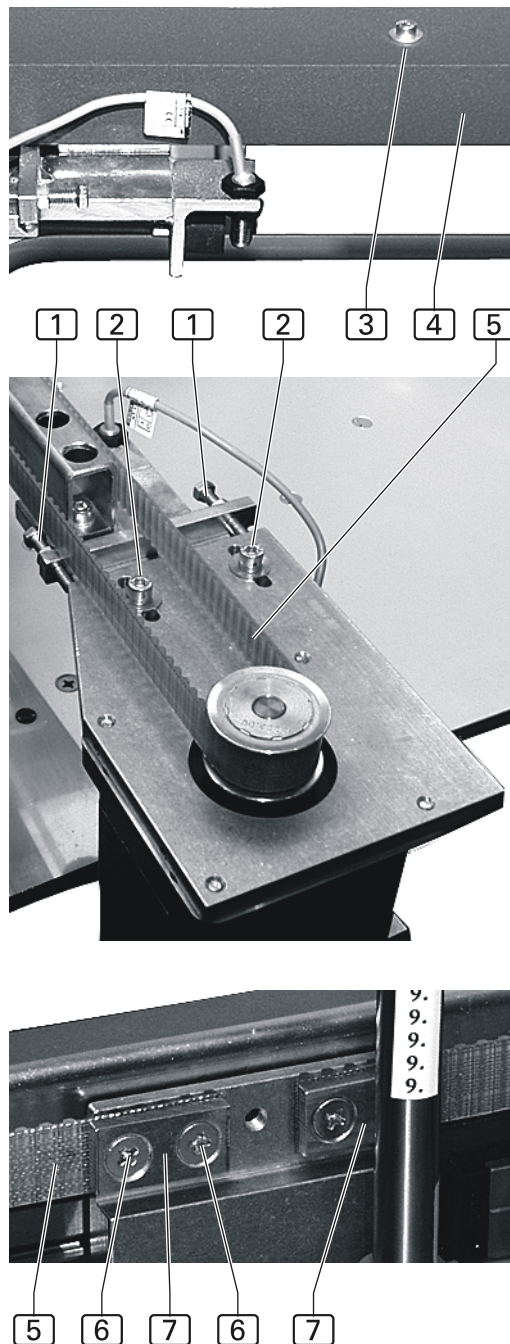

Fig. 11
Fig. 11: Clamp blocks secure the contour guide photocells to the rod brackets so that the photocell position can be changed in any given direction. The light beam of the photocells should always be positioned to the center of the corresponding film disk.
3. **Fig. 11:** Remove the screws [3] that secure the cover [4] and remove the cover.